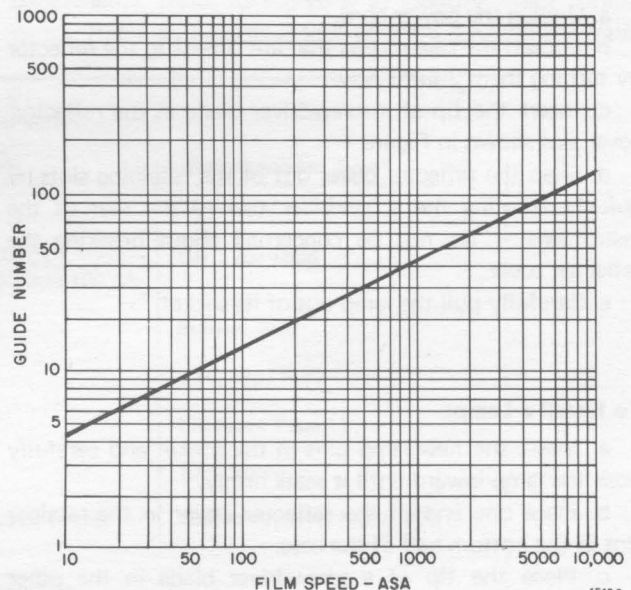

Figure 3. Guide-number chart.
- Find the guide number for the film speed used (see Figure 3).